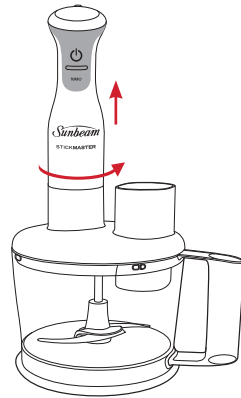

Figure 4
10. To detach the motor body, twist the shaft in an anti clockwise position until the motor body unscrews from the processing bowl. See Figure 4.